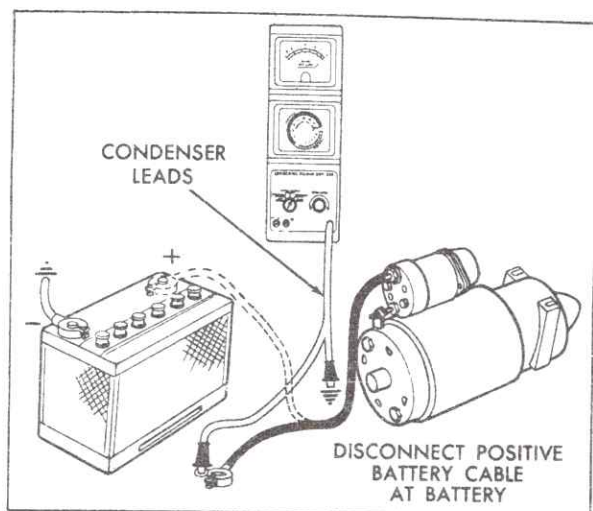

Fig. 6-68 Primary Wiring Test
7. Connect condenser leads as shown in Fig. 6-68. Meter should read in blue meg band if insulation in primary circuit is normal.